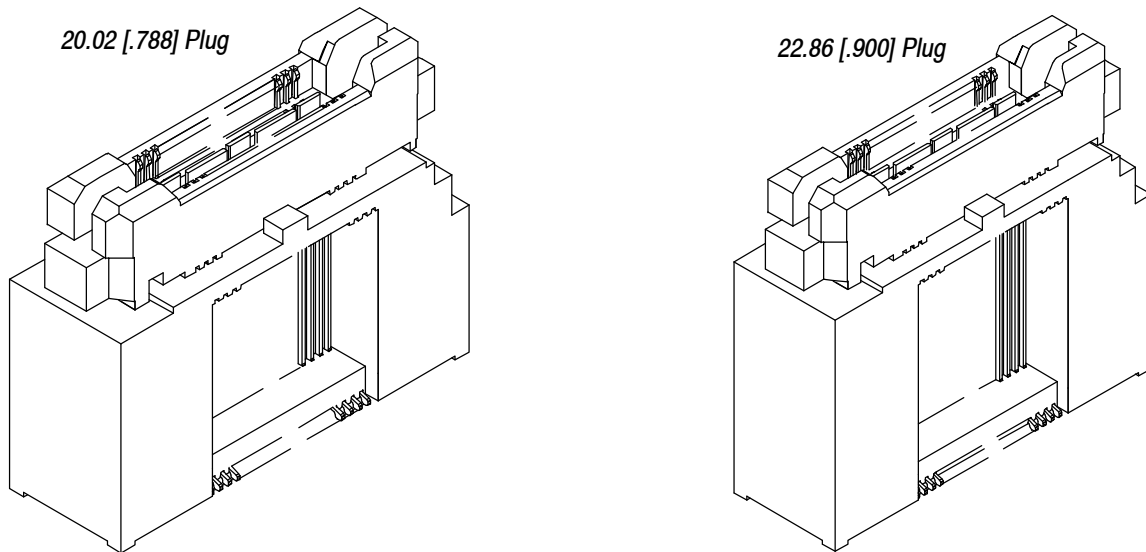

Figure 1 (end)
Plug and receptacle connectors are available in various stack heights (see Figure 1), and right-angle designs. The Vertical Plugs are identified with stack heights that describe their board-to-board distance when assembled with a standard receptacle. Receptacle Connectors are available in vertical configurations which mate with either vertical or right-angle plugs. An extended height receptacle is also available which adds additional mated heights to the vertical product family. Vertical connectors are polarized by an orientation feature that is located at the end of the housing. The date code and position one indicator are marked on the side of the housings of all connectors.
Figure 1 provides connector features and terms used throughout this specification. Use these terms when corresponding with TE Connectivity (TE) Personnel to facilitate assistance.
Both the vertical plug and receptacle connectors are prevented from reverse mating by an orientation feature located at the end of the connector that interfaces with the orientation hole in the pc board. See Figure 1.
Vertical plugs and receptacles are marked with a No. 1 pin identifier. See Figure 1.